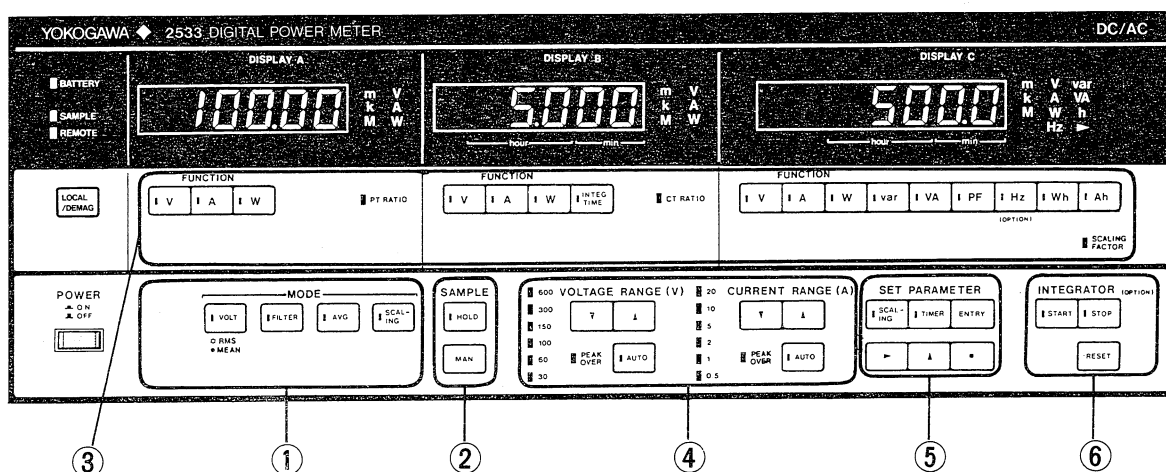

Figure 2-11.
Install the backup batteries according to section 2-2. Before any settings have been made with the front panel keys, the settings of the keys shown in Figure 2-11 when turning on power are at a default status given below. For a DC/AC meters, when the power turns on, its DC-CT core is demagnetized.
A measurement mode is selected by MODE keys shown by ① in Figure 2-11. The initial status of the keys are given in Table 2-5.
The sampling hold status is turned ON or OFF by SAMPLE keys indicated by ② in Figure 2-11. The initial settings are given in Table 2-6.
A display mode is selected by FUNCTION and ELEMENT keys corresponding to DISPLAY A, B and C shown by ③ in Figure 2-11. The initial settings of the keys are given in Table 2-7.
Each measurement range is selected by VOLTAGE RANGE (V) and CURRENT RANGE (A) keys shown by ④ in Figure 2-11. The initial settings are given in Table 2-8.
Press  key, shown by ⑤ in Figure 2-11. The key lamp comes on and, at the same time, PT ratio, CT ratio and scaling factor initial set value are indicated on DISPLAY A, B and C, as shown in Table 2-9.
Press  key, shown by ⑤ in Figure 2-11. The key lamp comes on, DISPLAY A and B disappear as shown in Table 2-10, and initial timer setting is indicated on DISPLAY C.
At the same time, INTEGRATOR Keys shown by ⑥ in Figure 2-11 give initial settings shown in Table 2-11.